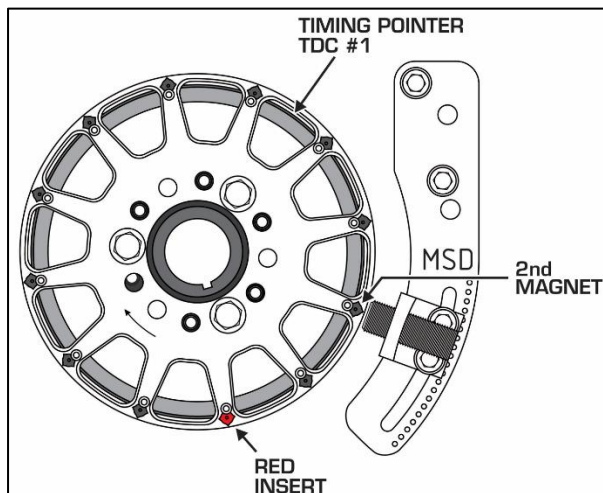

Figure 4: (Example) Aligning 2nd tooth, Driver Side Mounting
4. Rotate the crank wheel until the 2nd-tooth (Magnet, black insert) after the red insert lines up with the approximate centerline of the sensor. **Figure 4 and 5** show two examples. The wheel was designed such that the bolt-holes on the wheel should line up to those of the balancer under these conditions. This should provide an ignition reference angle of 60° BTDC #1, assuming a standard key-way location on the crankshaft.